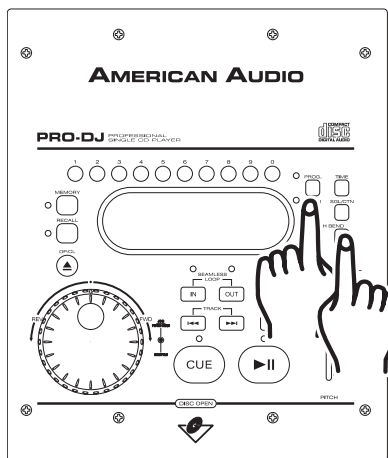

Figure 13
**Adjusting the Pitch Slider's Range (14):** You may change the *PITCH SLIDER'S* (14) operating range. To change the operating range be sure the pitch function is turned on, see figure 13. The pitch percentage can be changed between  $\pm 8\%$ ,  $\pm 12\%$ , and  $\pm 16\%$ .  $\pm 8\%$  will allow the least amount of pitch manipulation and  $\pm 16\%$  will allow the most amount of pitch manipulation. To adjust to the different values hold the *PITCH BUTTON* (18) and tap the (+) *PITCH BEND BUTTON* (17).